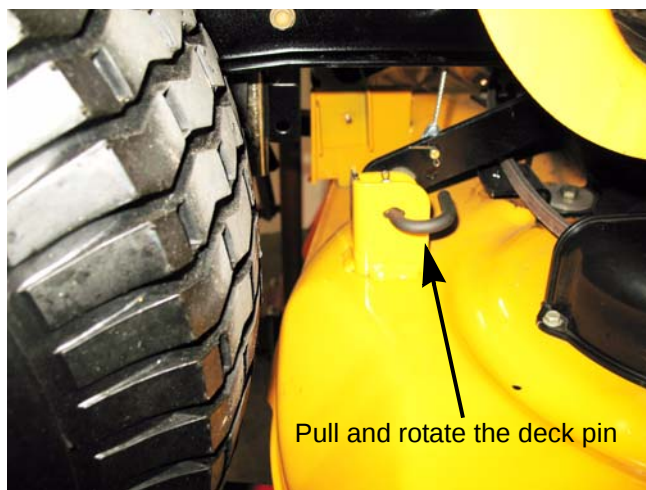

Figure 8.5
4. Pull the deck pins on both sides and rotate them to keep them out. See Figure 8.5.